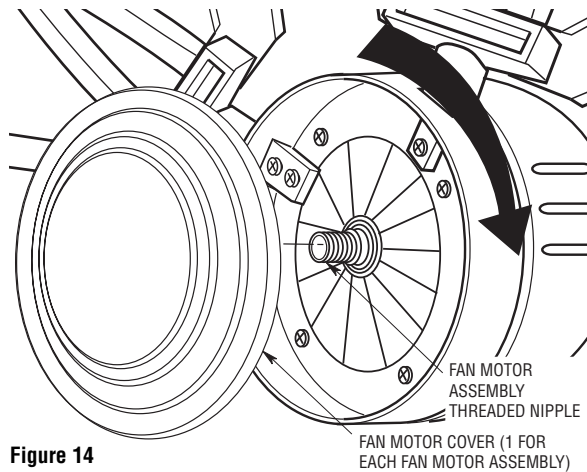

Figure 14
- 5. Thread the fan motor cover onto the fan motor assembly threaded nipple and rotate cover clockwise to tighten securely. (Figure 14).